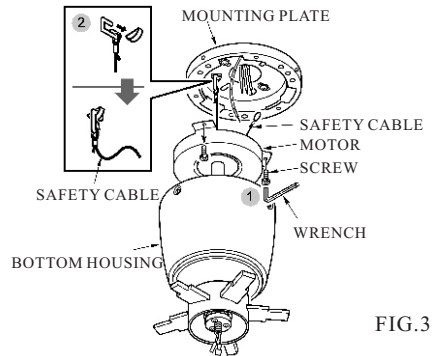

FIG.3
3. Hang the cable from the fan body up to the hook on mounting plate.(see fig.3)